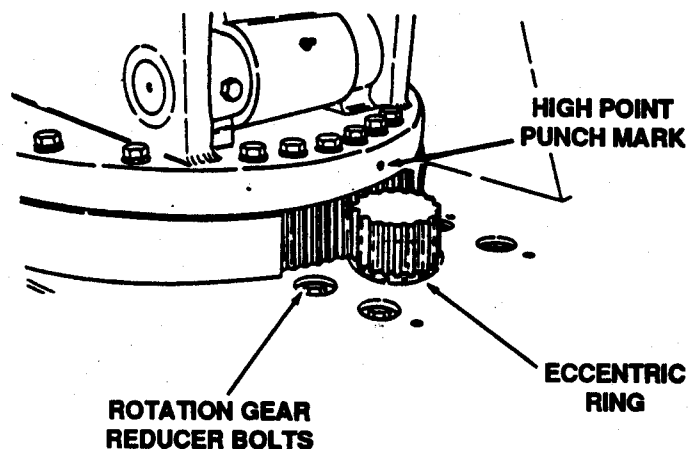

Figure 3. Adjustment of Gear/Pinion Lash
2. Start machine and rotate mast until high point on gear is in alignment with pinion (See Figure 3). (NOTE: High point is punch-marked on edge of mast base plate after factory assembly). Lash at this position between gear and pinion should be between 0.005 and 0.015.